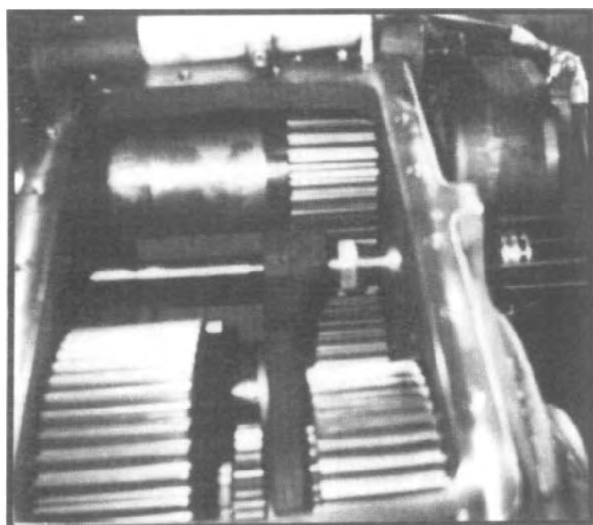

Fig. 197A (new style)
3. Place a small amount of oil on shaft, install shaft through large hole in housing. Thread jam nut onto shaft threads from inside housing and screw shaft into fork. Use a hex wrench to turn shaft. (See fig. 197A.)
19. Using a hex wrench to screw shaft in or out, adjust all three positions, high-neutral-underdrive (high-underdrive on cases without neutral) to give a centered neutral and approximately equal engagement at both ends of the shift. Use shop air pressure to operate the shifts. Tighten the jam nut to correct torque and install rear cap and gasket with four capscrews. (See fig. 197A.)